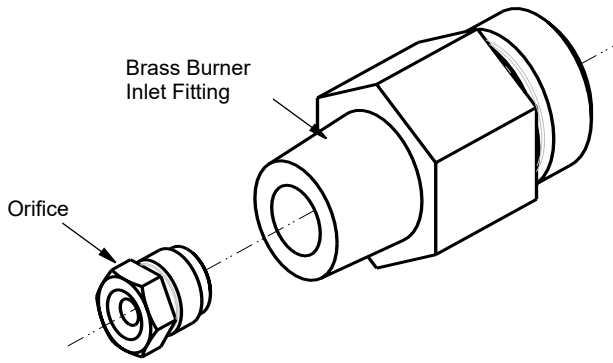

**Figure 3 - Attaching Burner Pan to Burner System**
1. Attach MFEB burner pan to burner system using four (4) #10 screws as shown in Figure 3.